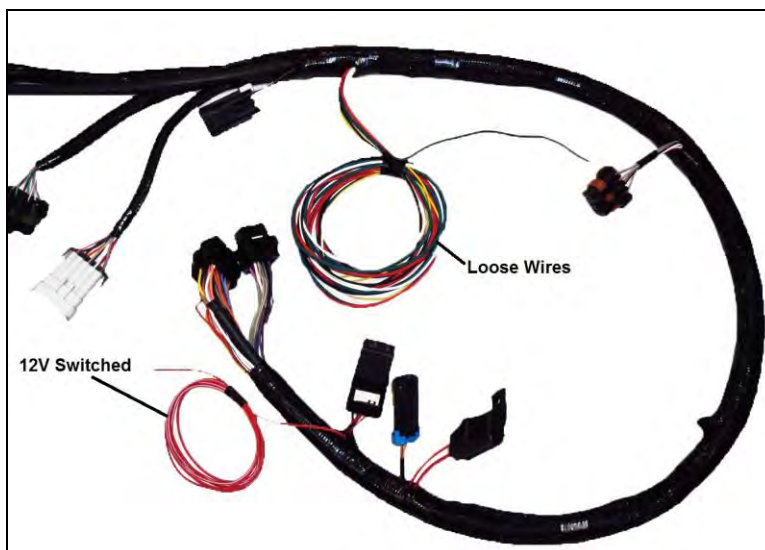

Figure 24
**12V Switched – Color = Red/White** – Should be connected to a clean +12 volt power source. Power source should only be active when the ignition is on. Make sure source has power when engine is cranking as well (check with voltmeter). Not all sources apply power when the ignition switch is in "cranking" position. This wire is located approximately 7" from the ECU connectors. **Refer to Figure 24.**